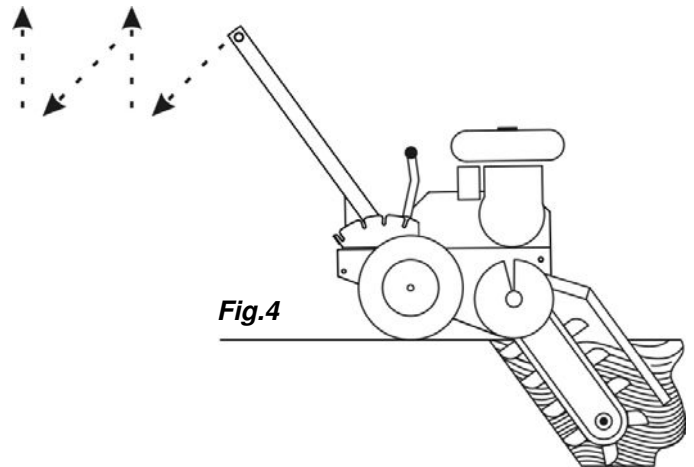

Fig.4
4. Using an intermittent pulling action, pull the trencher toward you 4 to 6 inches then relax your pull, allowing the trencher to again reach the chosen depth. **Fig. 4**